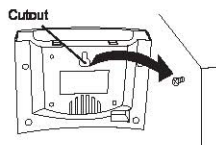

Fig.2
1. Fit a screw or nail at the installation site and use the cutout hole to hang the wirefree chime on it (Fig. 2). The wirefree chime can be removed at any time for mobile use.